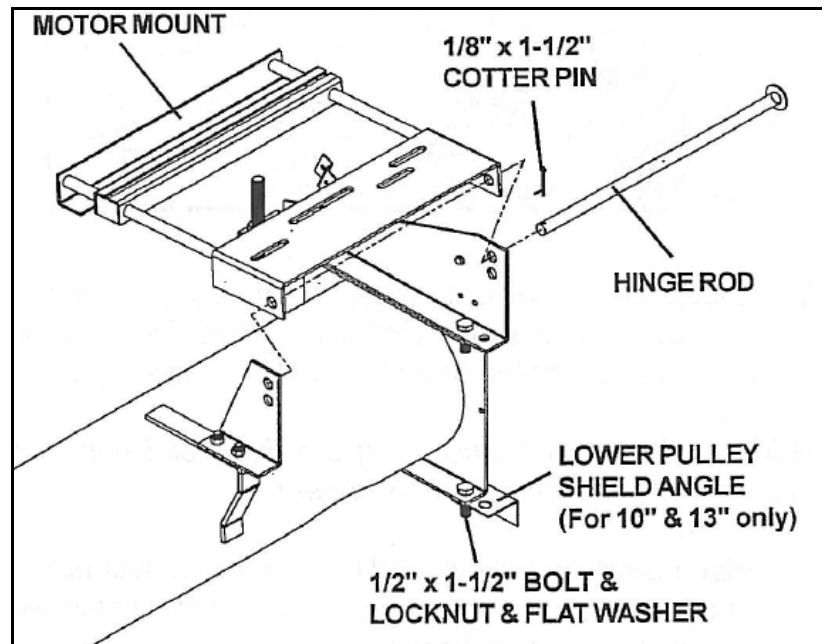

Figure 3.9
4. Place motor mount assembly in between the 2 mount plates and insert hinge rod as shown in Figure 3.9. Secure hinge rod with a 1/8" x 1-1/2" cotter pin.
5. **For 10" and 13" augers**, attach lower pulley shield angle to the head plate with two 1/2" X 1-1/2" bolts and locknuts and 1/2" flat washers (Figure 3.9). Tighten securely.